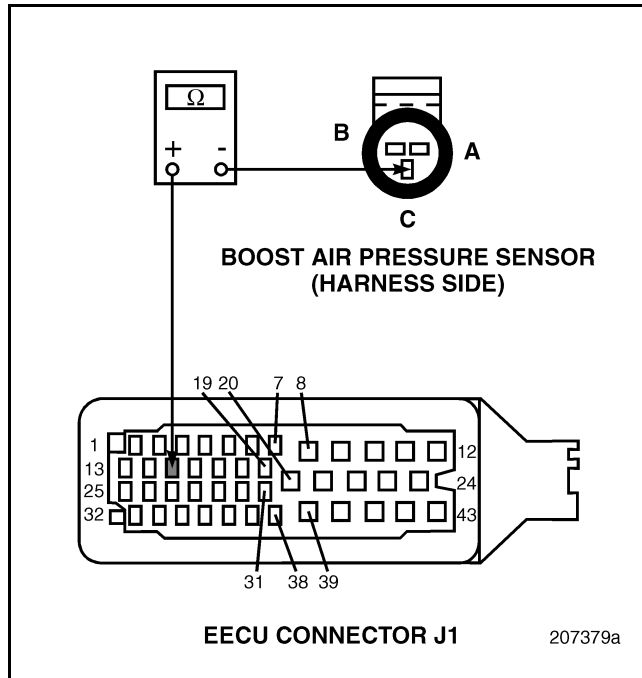

Figure 170
4. Check for continuity between BAP Sensor harness connector pin C (signal line) and EECU harness connector J1 pin 15 (see Figure 170).